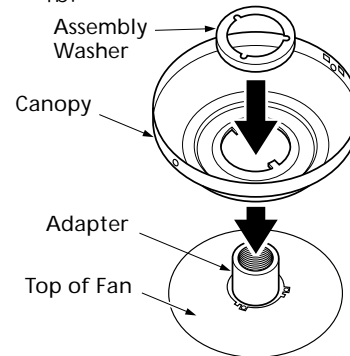

Figure 4b - Placing Canopy and Washer Over Adapter
adapter as shown in Figure 4b. Make sure the canopy fits snugly against the fan assembly with no space between the pieces.
2. You will find a large assembly washer included with the fan. Place the washer over the adapter and canopy as shown in Figure 4b.